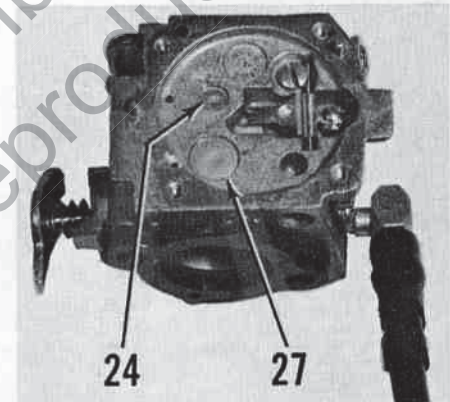

Fig. HL78—View of carburetor showing location of expansion plugs (24 and 27). Channel screen (26—Fig. HL75) is located under plug (24).
ages are choked, plugs (24 and 27—Fig. HL78) may be removed for cleaning purposes. Drill a 1/8-inch hole through large plug (27) and a 1/16-inch hole through small (nozzle) plug, then pry plugs from bores. Note: Carefully drill the holes so as not to damage carburetor body; drill should be controlled so that it will just break through the plug. Install new Welch plugs after cleaning carburetor. Refer to Fig. HL79 and bend diaphragm lever as shown, if necessary, so that lever is flush with floor of diaphragm chamber as shown by dotted line. **MAGNETO.** The model XL-88 is equipped